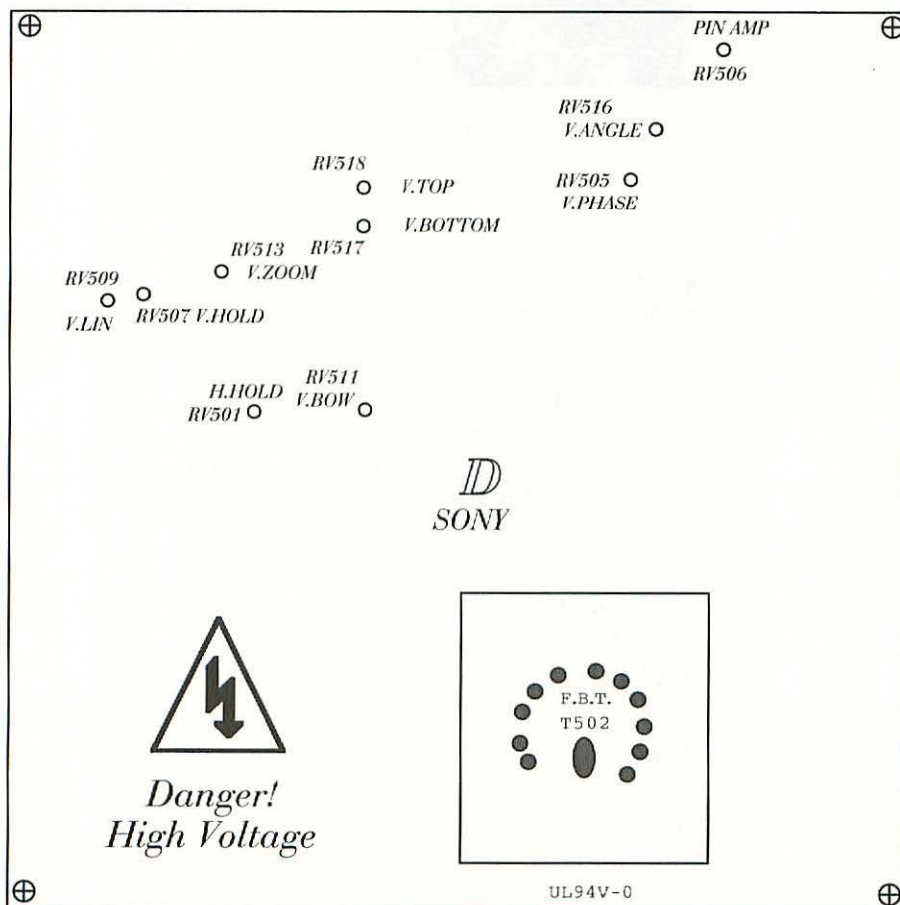
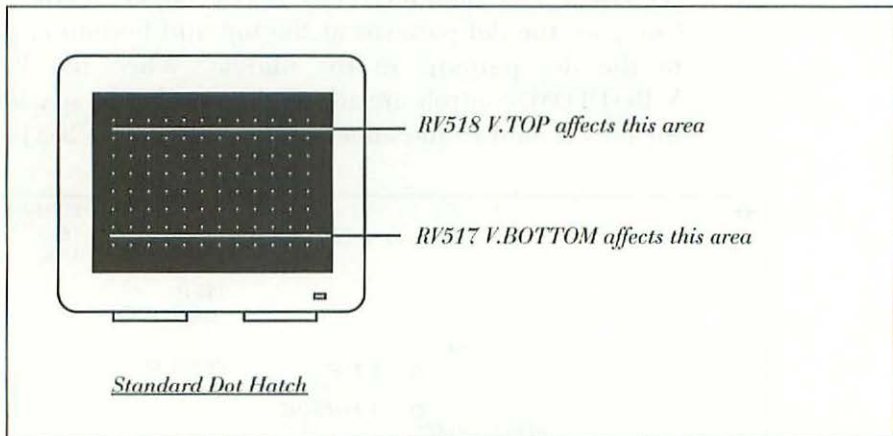

Figure 3-30 Two additional convergence controls, RV518, V.TOP and RV517, V.BOTTOM, are on the "D" board.
Figure 3-31 When the V.TOP and V.BOTTOM controls are adjusted properly, the spacing between the dots should be the same.
17. As shown in Figure 3-30, two additional convergence controls, RV518, V.TOP, and RV517, V.BOTTOM, are on the "D" board. Compare the dot patterns at the top and bottom of the display to the dot patterns in the middle. When the V.TOP and V.BOTTOM, controls are adjusted properly, the spacing between the dots should be the same, as shown in Figure 3-31.
Note: The “Danger! High Voltage” warning symbol has been added to Figure 3-30 as a safety reminder. It does not actually appear on the “D” board. Nevertheless, “D” boards are dangerous. Use extreme caution when working in this area.